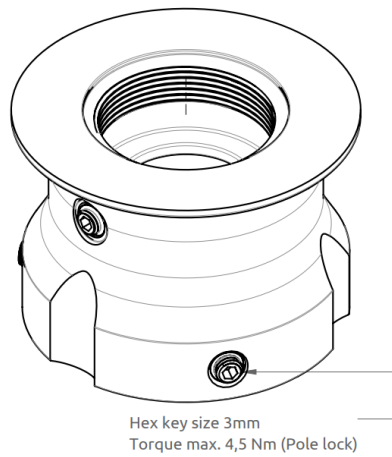
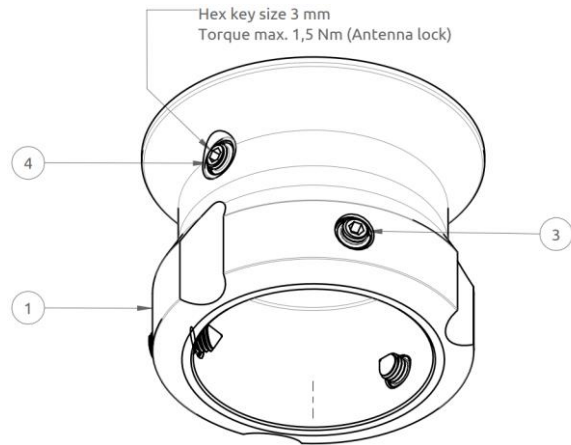

Figure 22: Pole Mount (2.0" pipe), Antenna Unit.
Figure 23: Pole Mount (2.0" pipe), Antenna Unit.
The Pole Mount (2.0" pipe, Ø53.0mm), Antenna Unit is illustrated in Figure 21 to Figure 23.
9. Screw the pole mount (clockwise) on the LT-4130 Antenna Unit, and fasten the antenna lock pinot screw, as illustrated in Figure 23 (max torque = 1.2 Nm)
10. The LT-4130 Antenna Unit and pole mount can now be mounted on the 2.0" pipe. Fasten the three pole lock pinot screws, as illustrated in Figure 22 (max torque = 4.5 Nm)
The Pole Mount (2.0" pipe, Ø53.0mm), Antenna Unit only supports a 2.0" pipe. The pinot screws (antenna and pole lock) torques are specified in Figure 22 and Figure 23. The pole mount is made of milled aluminum (anodized). The pinot screws are made of A4 stainless steel.